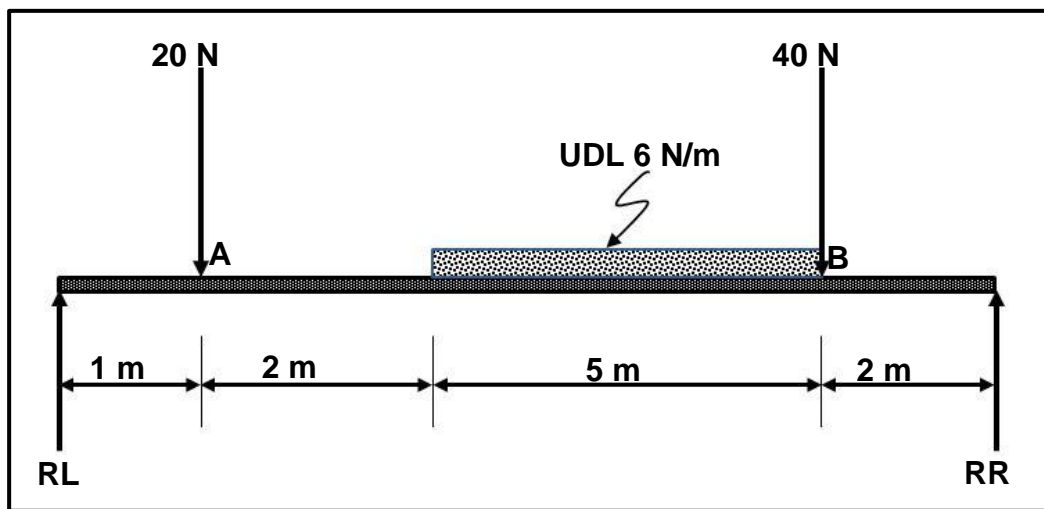

FIGURE 7.2
- 7.2 FIGURE 7.2 below shows a uniform beam that is supported by two vertical supports, **RL** and **RR**. The beam is subjected to two point loads and a uniformly distributed load (**UDL**).